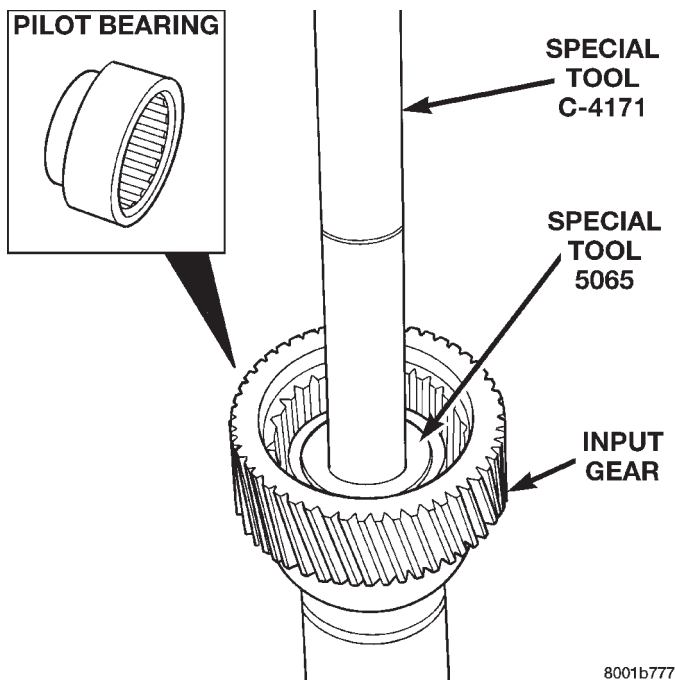

Fig. 48 Pilot Bearing Installation
(6) Install pilot bearing in input gear with Tools C-4171 and 5065 (Fig. 48).
(7) Assemble input gear and planetary carrier as follows: